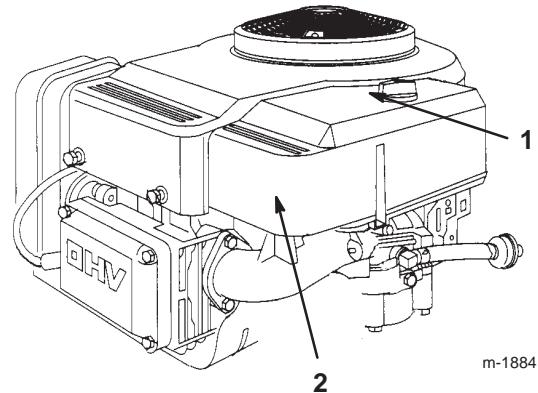

Figure 20
8. Unscrew the knob and remove the air cleaner cover (Fig. 20).
4. Install the air cleaner cover and knob (Fig. 20) and tighten the knob snugly.